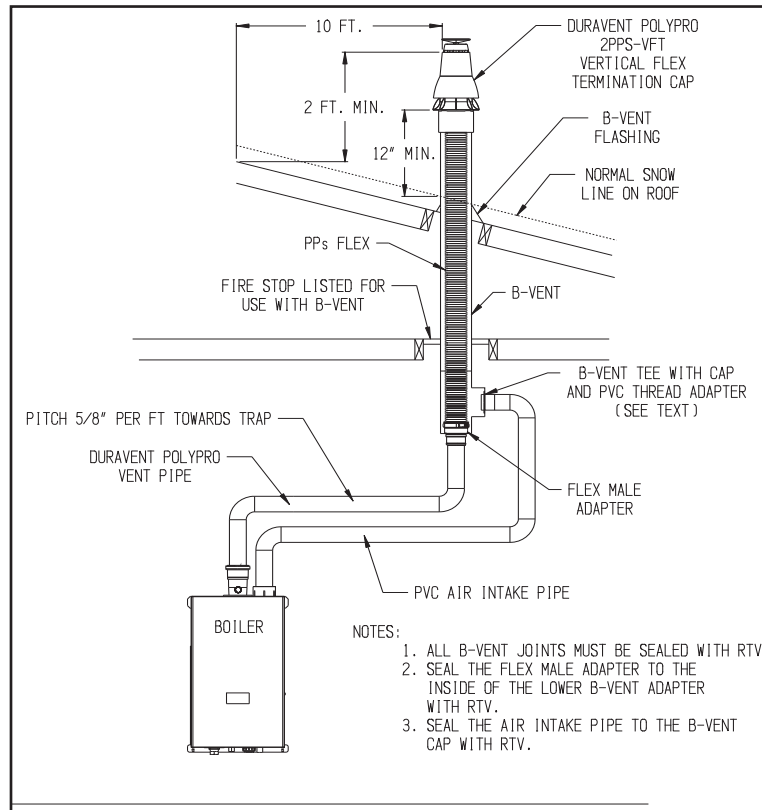

Figure 7.19: Duravent PolyPro B-Vent Air Chase System (Vent Options #18 & 19)
3. Requirements for B-Vent Air Chase Options – Observe the following additional requirements when using an abandoned B-vent chimney as an air chase as described in Options #18-21. Also refer to Figures 7.19 & 7.20.
Example: A 110MBH model is to be installed as using Vent Option 18 as shown in Figure 7.19. The following components are used: